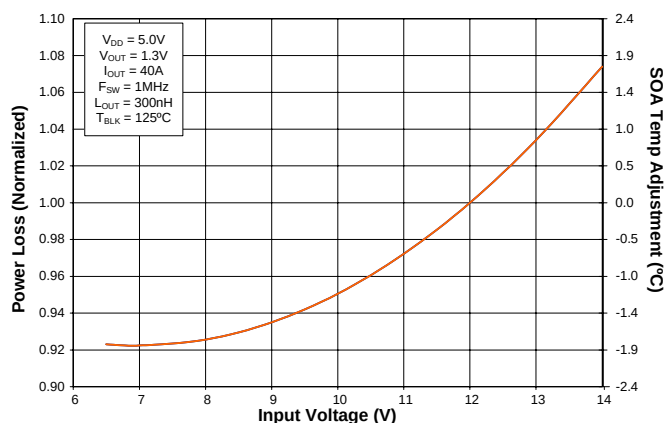

Figure 3 Normalized Power Loss vs. Input Voltage
| (Figure 3) | Normalized power loss for input voltage ≈ 0.95 |
- (Figure 3) SOA temperature adjustment for input voltage $\approx -1.2^{\circ}\text{C}$